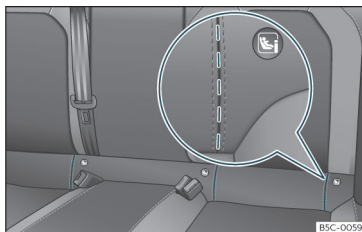

Fig. 27 Rear seat: die cut slots to access the ISO-FIX / iSize securing rings.
rings are secured to the seat frame and, in others, they are secured to the rear floor. The “ISOFIX” rings are located between the rear seat backrest and the seat cushioning >>> **Fig. 27**. The Top Tether rings are located on the rear part of the backrests of the rear
- Open the cut-out section behind the marked grooves to access the retaining rings >>> **Fig. 27**.